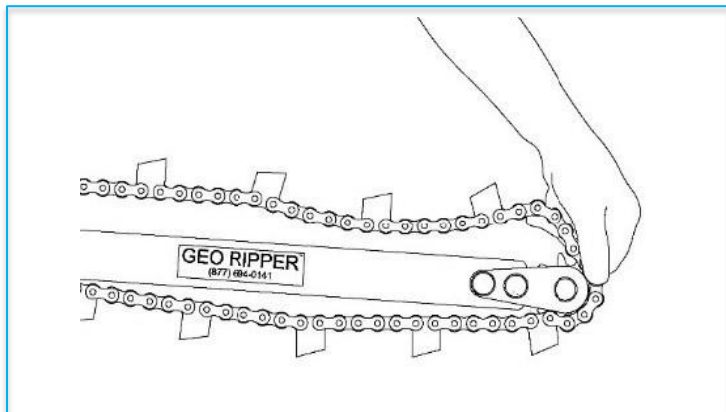

Fig.7
2. Place the chain over the bar and nose sprocket (Fig.7)